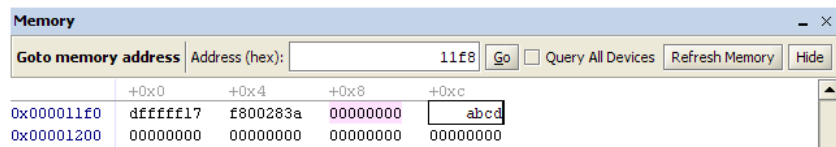

Figure 39. Editing the value at the 000011fc memory address.
2. Type in abcd, as in Figure 39.